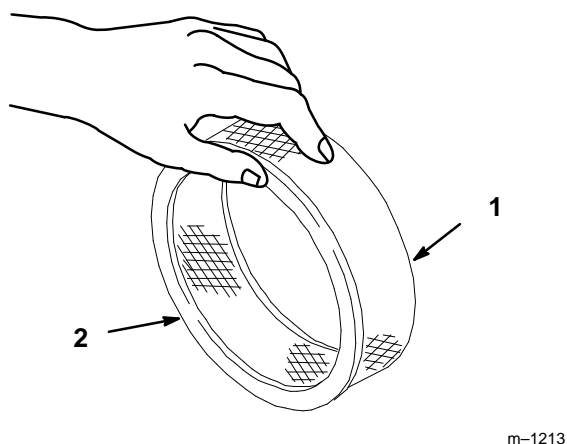

Figure 15
- A. Lightly tap the element on a flat surface to remove dust and dirt (Fig. 15).